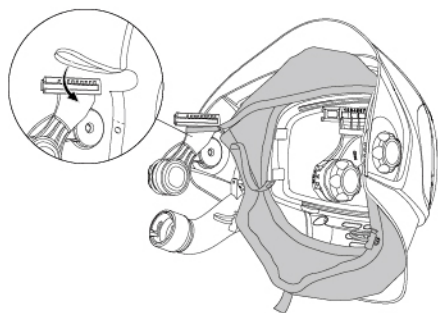

fig.10
•Pull the elastic at face seal and put it on adapter.(See fig.10).